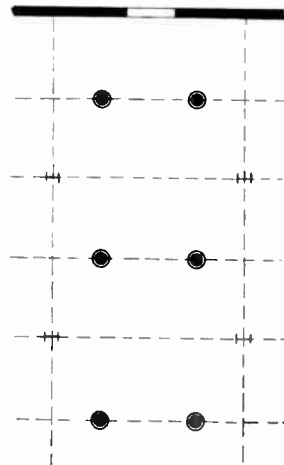

Fig. 4.—DESIGN FOR CENTRAL BAY (2).
- (B) Two fittings on alternate tie bars—spacing 20 ft. in one direction and 12 ft. in the other, i.e., too far apart in one direction and too close in the other. (Fig. 4.)
- (C) Two fittings on first tie bar and one on second and so on alternately.